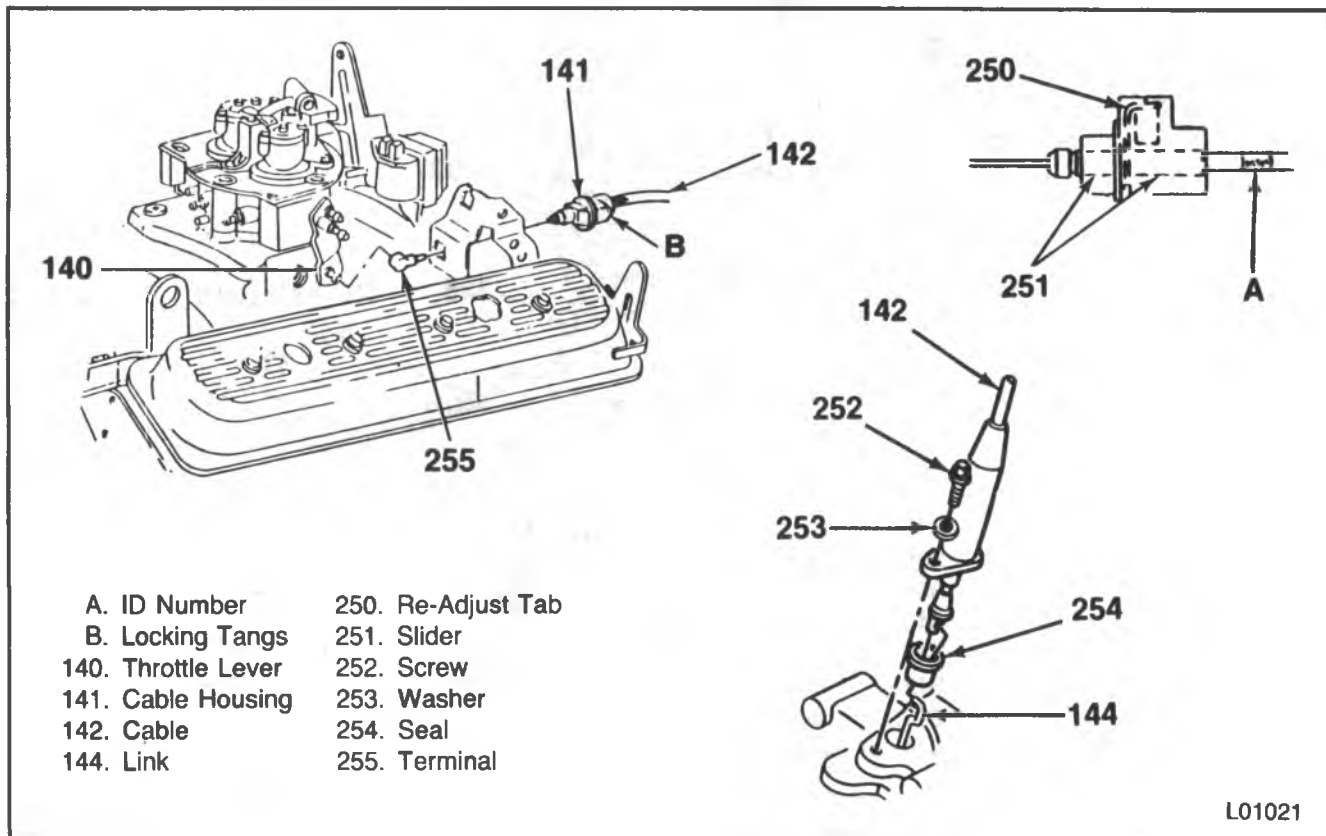

Figure 72 — TV Cable (THM 700-R4)
The TV cable operates the TV link (144) and bracket in the transmission (figure 72).
**Remove or Disconnect (Figure 72)**
2. Cable terminal (225) from the throttle lever (140).
3. Cable housing (141) from the bracket while compressing locking tangs (B).
5. Screw (252) and the washer.
6. Cable (142) from the transmission link (144).
7. Seal (254).
**Install or Connect (Figure 72)**
1. New seal (254) into the transmission case hole.
2. Cable (142) to the transmission link.
3. Screw (252) and the washer.
- Screw (252) to 10 N·m (7 ft. lbs.).
5. Cable (142) through the engine bracket and engage locking tangs (B) of the cable on the bracket.
6. Cable terminal (255) to the throttle lever (140).
**Adjust (Figure 72)**
2. Depress and hold down the metal re-adjust tab (250) at the engine end of the TV cable (142).
3. Move the slider (251) until it stops against the fitting.
4. Release the readjustment tab (250).
5. Rotate the throttle lever (140) to its "full travel position."
6. The slider (251) must move (ratchet) toward the lever when the lever is rotated to its "full travel position."